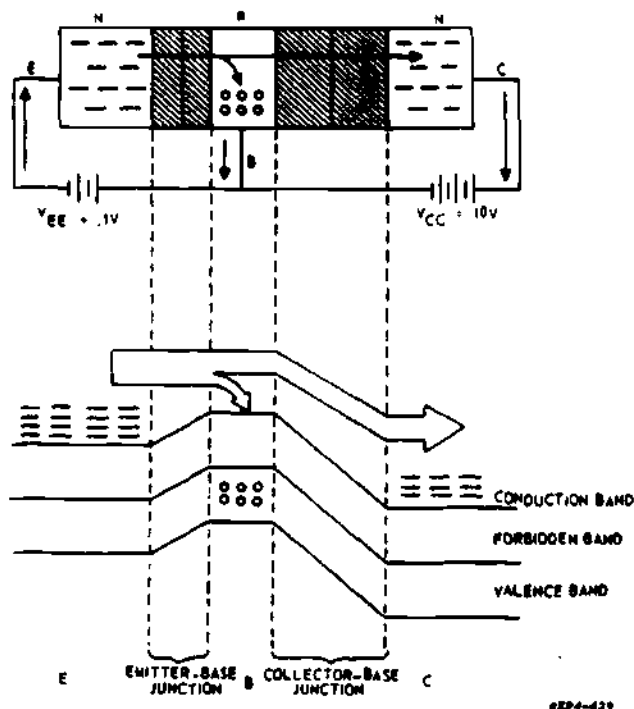
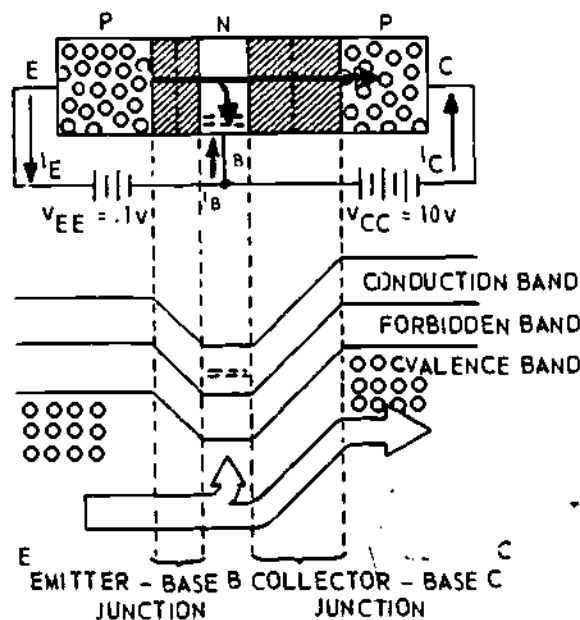

Figure 30-2. Pictorial and Energy Level Diagram of a Biased NPN Transistor
Figure 30-3. Pictorial and Energy Level Diagram of a Biased PNP Transistor
Transistors have two PN junctions; the emitter/base (EB) junction and the collector/base (CB) junction. For conduction the EB junction is forward biased and the CB junction is reverse biased. Figure 30-2 shows the result of forward biasing a NPN transistor, and figure 30-3 depicts the result of forward biasing a PNP transistor.